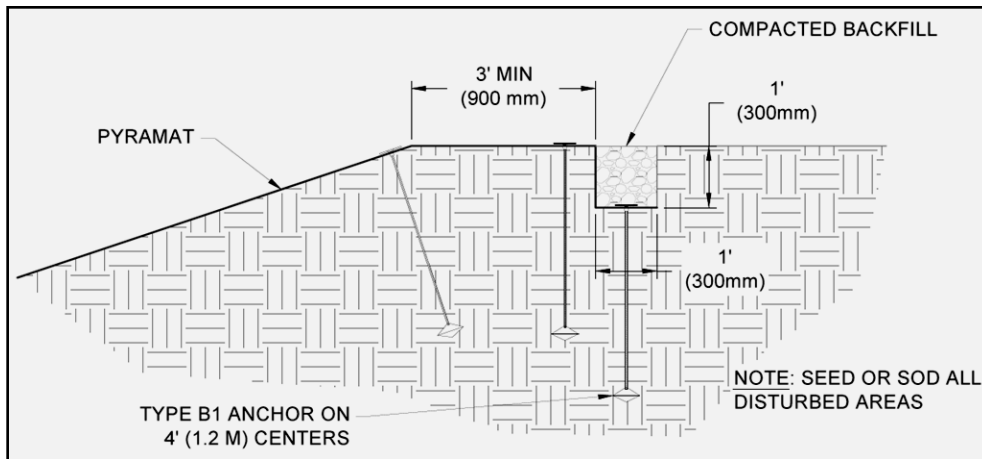

Figure 2: Crest of Slope (COS) Trench
4. Excavate a Crest of Slope (COS) trench a minimum of 12 in x 12 in (300 mm x 300 mm) along both sides of the installation. Each COS trench must be a minimum of 3 ft (900mm) over the crest of the bank (Figure 2), preferably on a relatively flat surface.